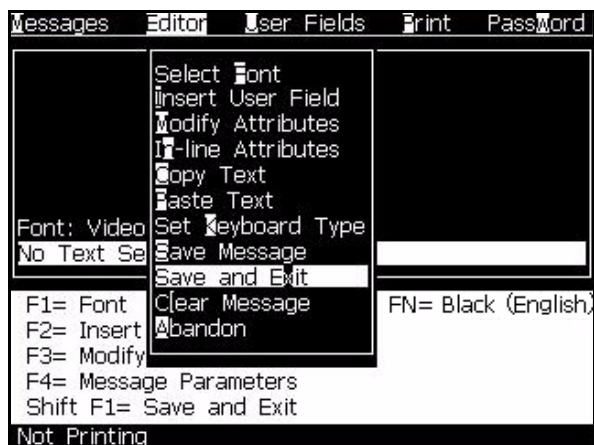

Figure 5-27: Save and Exit Option
- Select *Save and Exit* from the *Editor* menu (Figure 5-27).